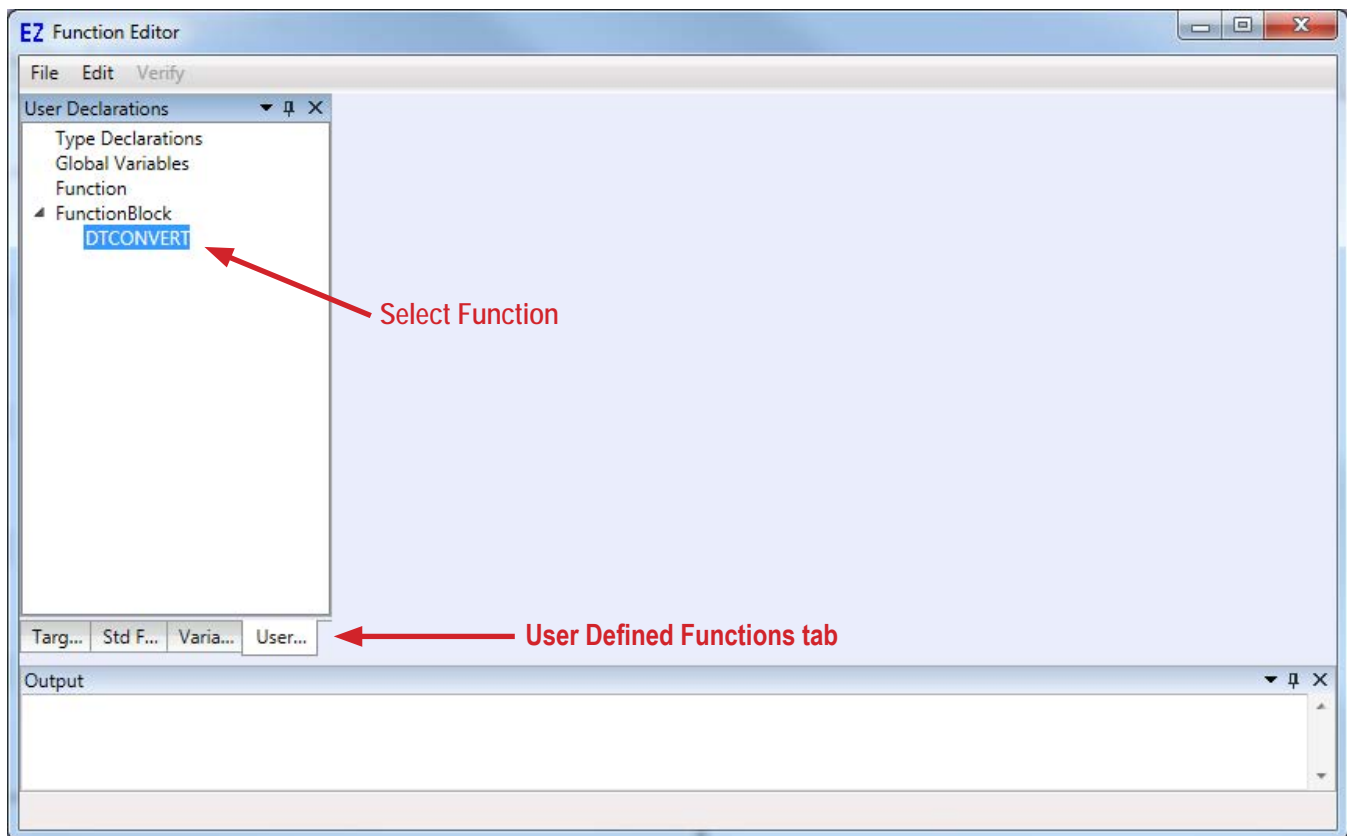

Figure 26-26
3. Click the User Defined Functions tab (see Figure 26-26) to view the list of user defined functions and function blocks. Select the function / function block to export. You may need to expand the Function or FunctionBlock heading.